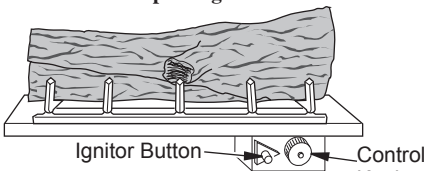

Figure 27 - Control Knob and Ignitor Button Location
3. Turn control knob clockwise  to the OFF position (see Figure 27).
4. Wait five (5) minutes to clear out any gas. Then smell for gas, including near the floor. If you smell gas, STOP! Follow "B" in the safety information, page 17. If you don't smell gas, go to the next step.
5. Turn control knob counterclockwise  to the PILOT position. Press in control knob for five (5) seconds (see Figure 27).